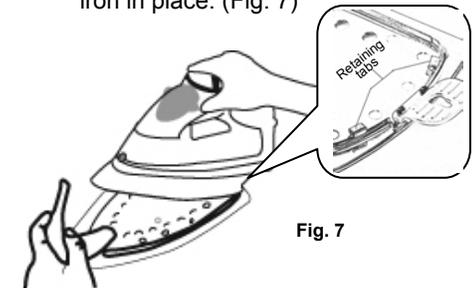

Fig. 7
- Lower the nose of the iron and close the soleplate clamp to secure the iron in place. (Fig. 7)